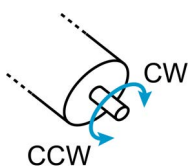

Figure 8-125 Adjustment of SSI commutation offset value | Check sense of rotation
- b) Turn the motor shaft by hand counterclockwise (CCW) as seen towards the motor's mounting flange (→Figure 8-125).